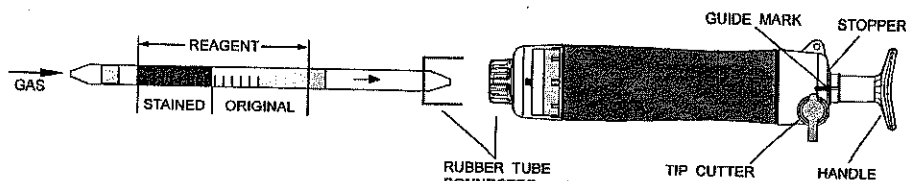

Fig.1
- ② Insert the detector tube into aspirating pump securely as shown in Fig.1. (Arrow mark shall point to the pump.)
- ③ Align the guide marks on the shaft and stopper of the aspirating pump.
- ④ Pull the pump handle at full stroke until it locks and wait for 1 minute or until the completion of sampling is confirmed with the flow indicator of the pump (See descriptions about the flow indicator in the instructions of the pump).
- ⑤ On completion of sampling, read the scale at the maximum point of the stained layer.